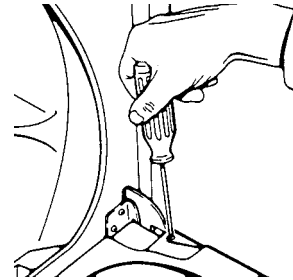

Fig. 37
3. Open dryer door. Remove the screws from each door hinge. (Fig. 37) Remove dryer door by sliding it off of hinges.